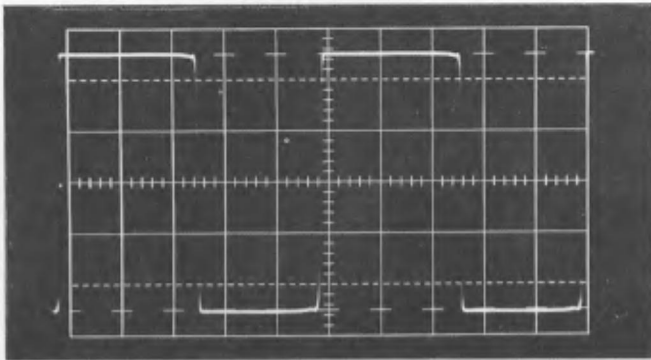

Fig. 4-18. Crt display of pulse aberrations.
- Set the Type 547 TIME/CM (B) switch to $.2 \mu\text{SEC}$. Set the Type 1A1 VOLTS/CM switch to 2.
- Rotate the Type 114 WIDTH — VARIABLE control for 2 complete cycles in the 10 cm of the graticule (see Fig. 4-18).
- Check that the aberrations, such as those shown in Fig. 4-18 do not exceed 5% peak-to-peak ($2\frac{1}{2} \text{ mm}$ or $1\frac{1}{4}$ minor graticule division).
- Change the AMPLITUDE switch back to $+3$ to 10 V . Change the Type 547 TIME/CM (B) switch to $.1 \mu\text{SEC}$ and obtain a stable display.